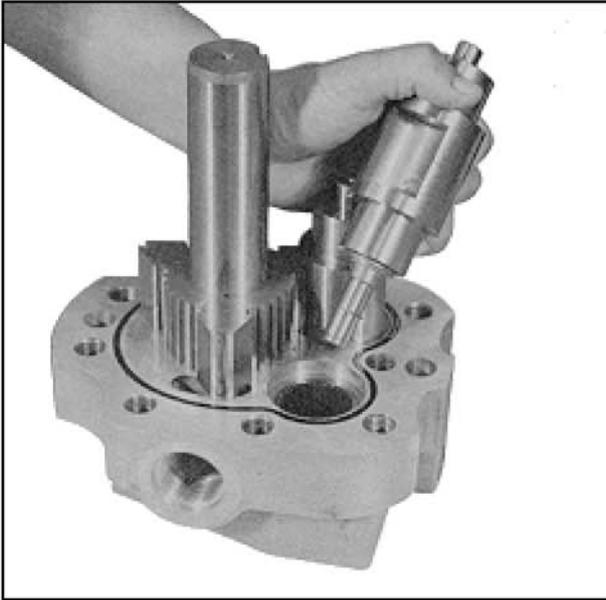

FIGURE 8
9.) Remove the snap rings that retain the gears, (Fig. 8) and remove the gears.
10.) By positioning the rotor as in Figure 8, you can lift one of the abutment valves out. Rotate the shaft and remaining abutment until the lobe of the rotor leaves the abutment cavity. You now can remove this abutment.